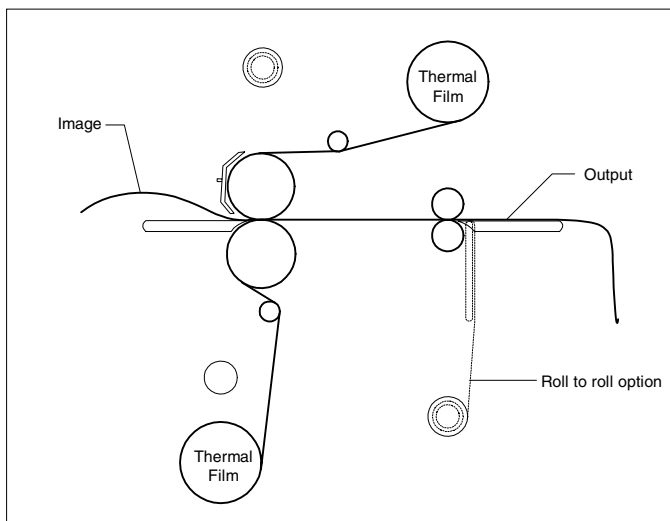

Fig. 39
TIPS FOR THERMAL ENCAPSULATION (Figure 39)
1. Load the laminator as illustrated in Figure 39. Poly-in film is used for illustration purpose.